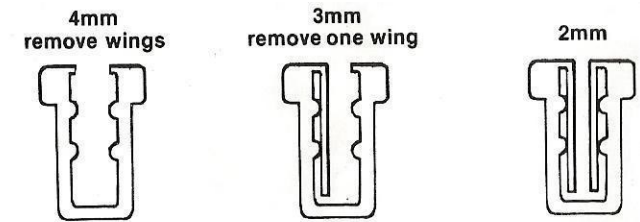

Figure 5
a) If using 4mm glazing, remove both wings from each length of Section F (Figure 5). Snip to start, then tear off along the length.
b) If using 3mm glazing, remove one wing and leave the remaining wing inside the gasket (Figure 5). Ensure when fitting to the glazing that all gaskets are fitted the same way.
c) If using 2mm glazing, use the gasket as supplied (Figure 5).